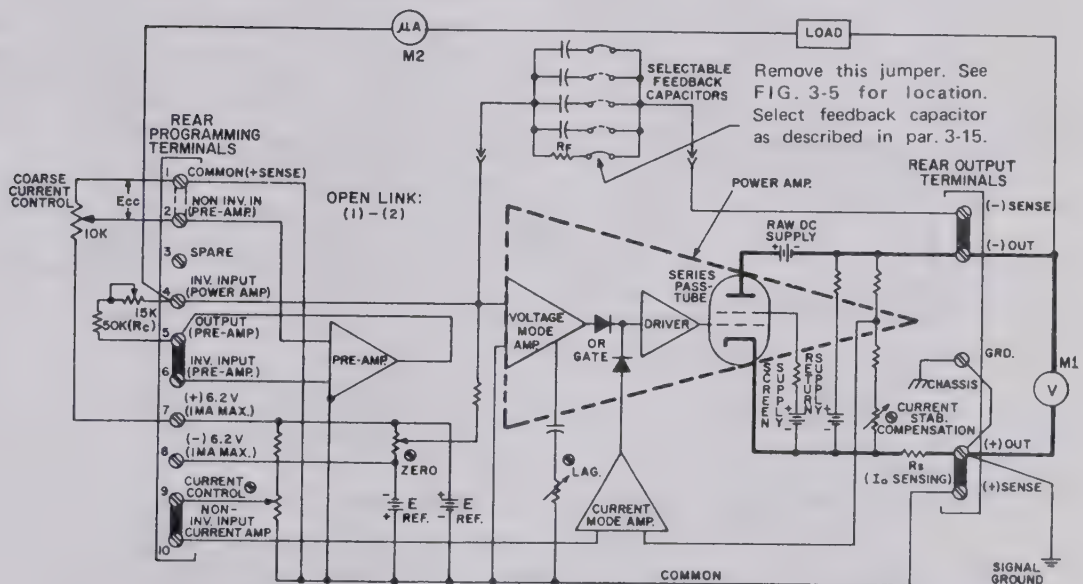

FIG. 3-16 EXTERNAL CONTROL OF THE OUTPUT CURRENT, USING THE VOLTAGE MODE AMPLIFIER. (LOAD COMMON TO THE (-) OUTPUT TERMINAL).
- 3-55 **COMPONENT SELECTION.** To summarize the material presented in the previous paragraphs (3-50 to 3-54) and to illustrate component selection, a sample application is described below and shown in FIG. 3-16.
- 3-57 Connect all components as shown in FIG. 3-16. The leads going to the preamplifier and power amplifier inputs should be shielded for minimum noise pick-up. The shield must be connected (single-ended) to the signal ground point.
- 3-59 **OUTPUT MEASUREMENTS.** Output effects may be measured with the microammeter in series with the load (See FIG. 3-16.) With the current monitor (M2) in the position shown, a high voltage isolated measuring device is not needed and the output current measurements can be performed directly.